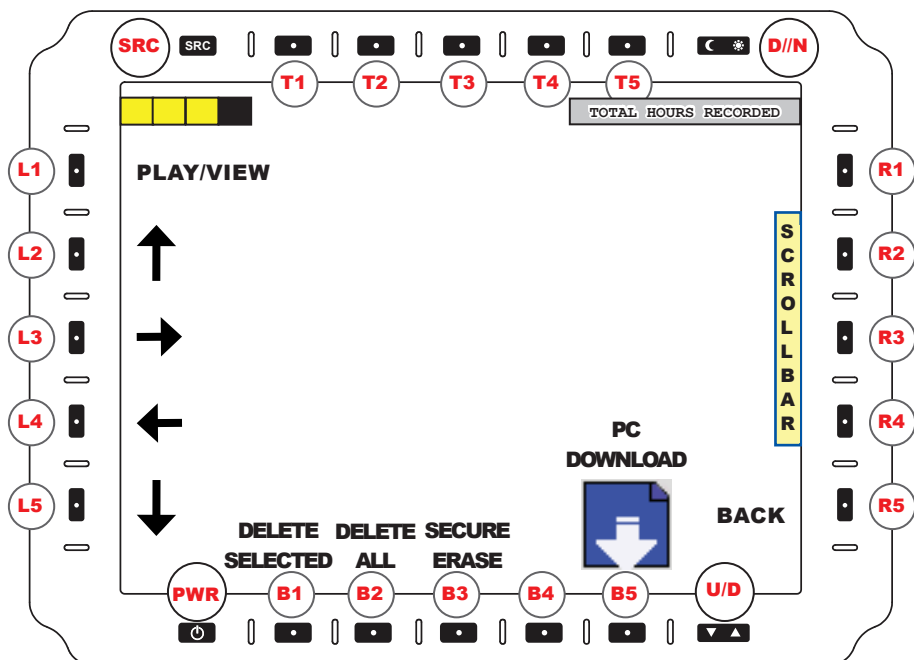
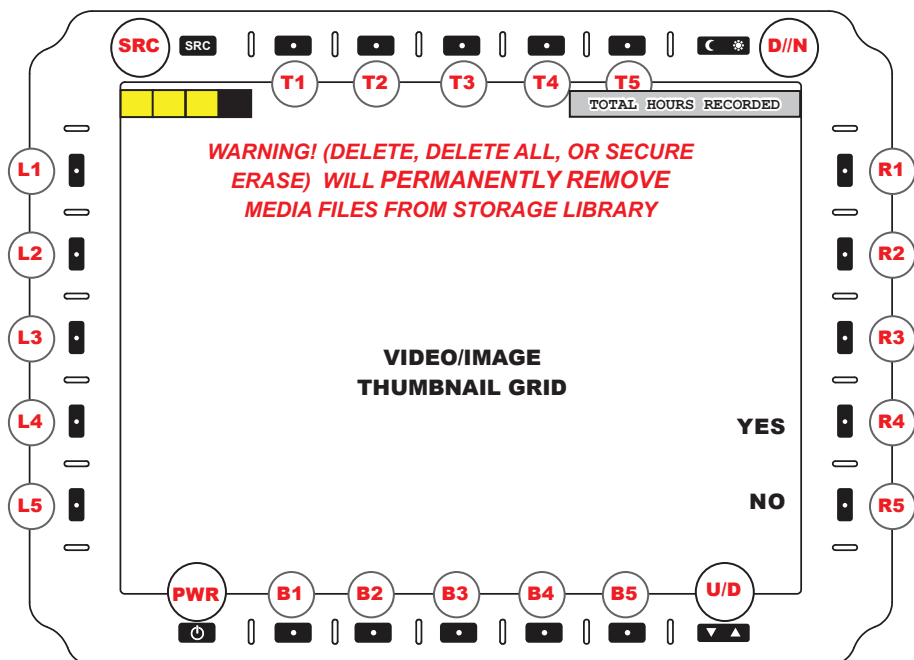
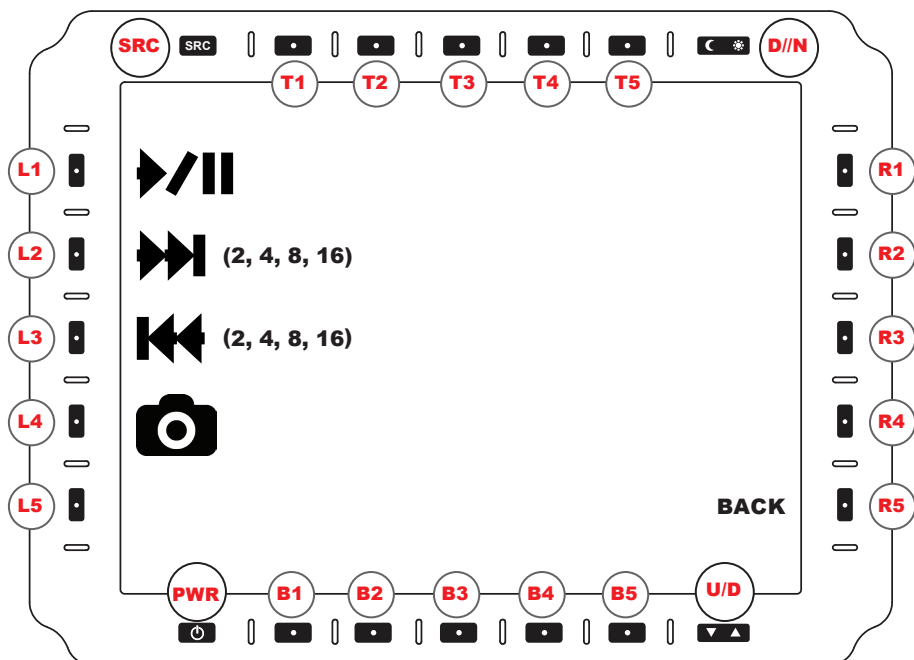
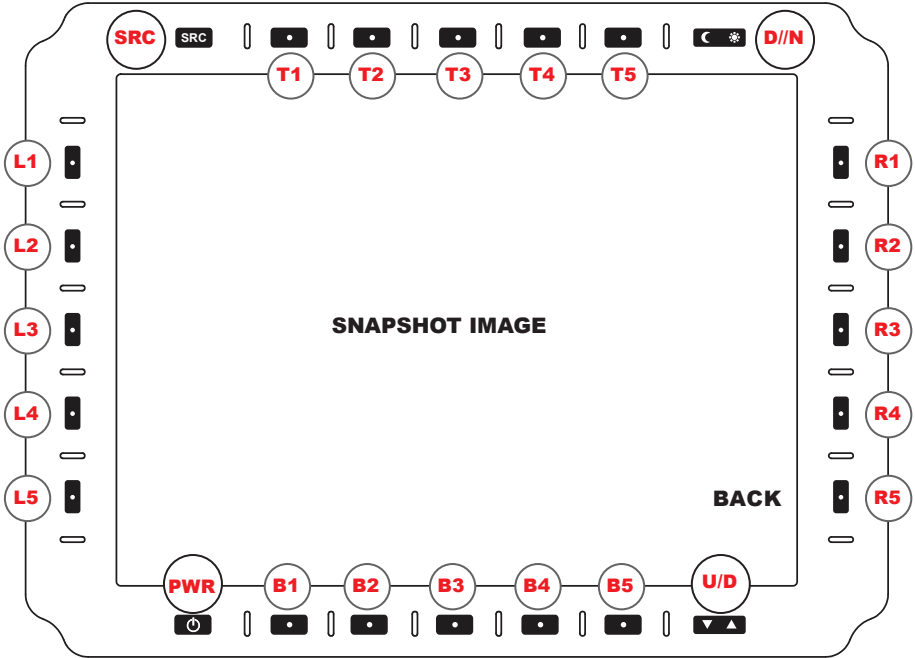

FIGURE 13. MEDIA MENU
FIGURE 15. CONFIRM DELETE MENU
FIGURE 19. VIDEO PLAYBACK MENU
FIGURE 20. SNAPSHOT VIEWER MENU
MEDIA. Opens Media Menu, Figure 13.
MEDIA (L2). Access to the Media Gallery (Figure 13), a thumbnail grid of recorded Video and Snapshot files.
The Media Menu provides access to the Media Gallery (Figure 13). The chronological-stored (oldest file first) Video (mp4) and Snapshot (jpg) files are viewed in a 4 x 3 thumbnail grid. Files are named with a Time/Date stamp indicating Video recording start time or Snapshot record time. The most recent recording defaults to last position in grid.
VIEW (L1). Displayed if image is selected, then shows selected file. This takes User to submenu Snapshot Viewer (see Figure 19).
Accessed from the Media Menu, use bottom row Delete keys (B1 - B3) to remove or transfer (B4) Media Gallery files. Selections Delete Selected (B1), Delete All (B2), Secure Erase (B3) or PC Download (B5) (download Media files to a PC). Selecting any of these softkeys opens submenu Confirm Delete (Figure 15). **A deleted Media file is not retrievable.**
DELETE SELECTED (B1). Opens submenu Confirm Delete (Figure 15) to Delete the Selected Media file, surrounded by a highlight border box.
DELETE ALL (B2). Opens submenu Confirm Delete (Figure 15) to Delete All Media files.
SECURE ERASE (B3). Opens submenu Confirm Delete (Figure 15) to securely wipe all data (Videos and Snapshots) from the Media Gallery.
Selecting any Delete action keys (B1 - B3) from Media Menu (Figure 13) opens the submenu Confirm Delete (Figure 15).
NO (R5). Aborts selected key action and returns to Media Menu (Figure 13).
- Power ON Display; go to Media Menu (Figure 13); Select PC Download Key (B5)
- Access SE, B3 key, from the Media Menu (Figure 13)
- Select NO (R5) to Abort Secure Erase; Screen returns to Media Menu (Figure 13).
Access the submenu Video Playback (Figure 19) by selecting key L1 Play/View from the Media Menu (Figure 13). This menu allows User to review previously recorded Videos. Select Video to play from Media Gallery (Figure 13).
SNAPSHOT (L4). Press to take a Snapshot of Video Playback frame from the saved Video in play; Snapshot is saved to Media Gallery (Figure 13) with current Time/Date stamp. After Snapshot is taken, screen returns to Video in play.
The submenu Snapshot Viewer screen (Figure 20) appears when accessed through the Snapshot Key (R5) in the Media Menu (Figure 13). This menu screen allows the User to view the Snapshot image.